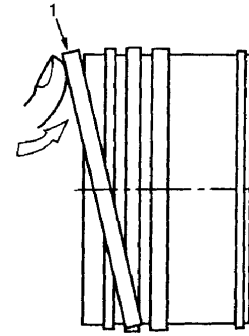

Figure 29
14. Insert one end of slipper seal, (1, Figure 29) into its groove. Use your hand to slide other end of slipper seal into groove.